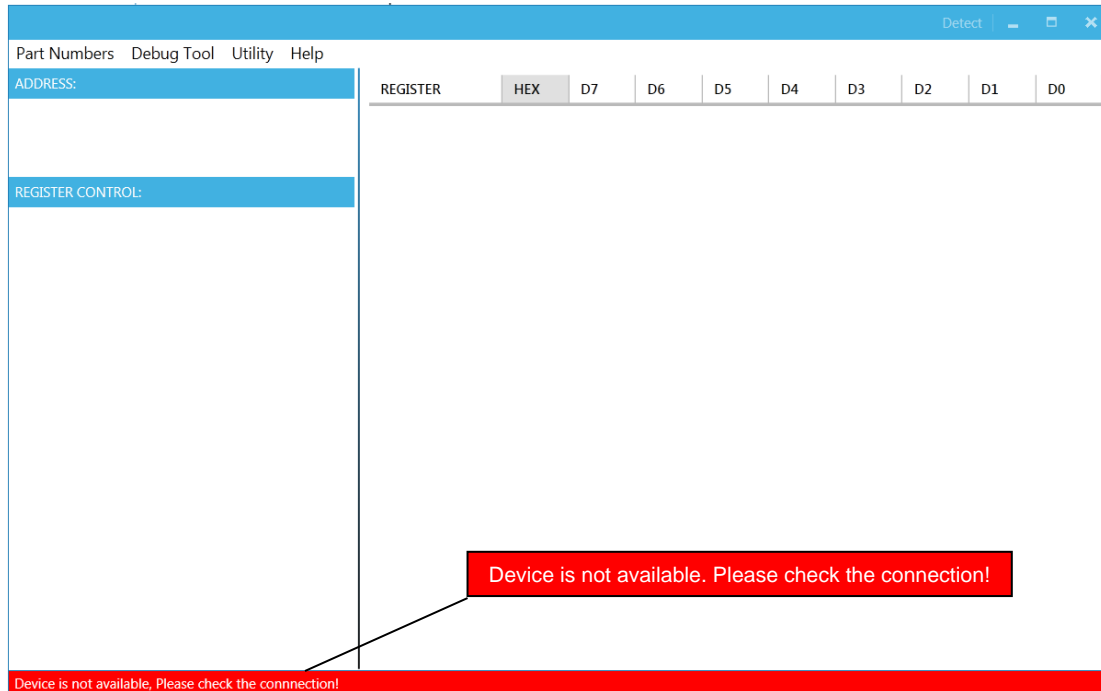

Figure 9: Warning Indicates Unsuccessful Connection – USBI2C Communication Interface Device is Not Connected
- 2) “Device is not available. Please check the Connection!” This means that the USB I2C communication interface device is not connected (see Figure 9).